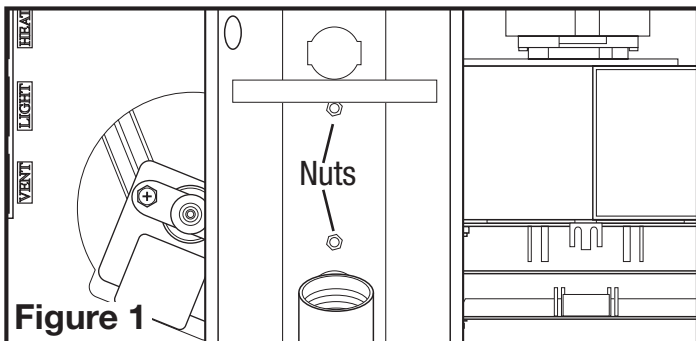

Figure 1
- Remove the two hex nuts holding the light reflector in place. Keep the reflector and nuts in the carton until needed so they do not get damaged or lost (Figure 1).